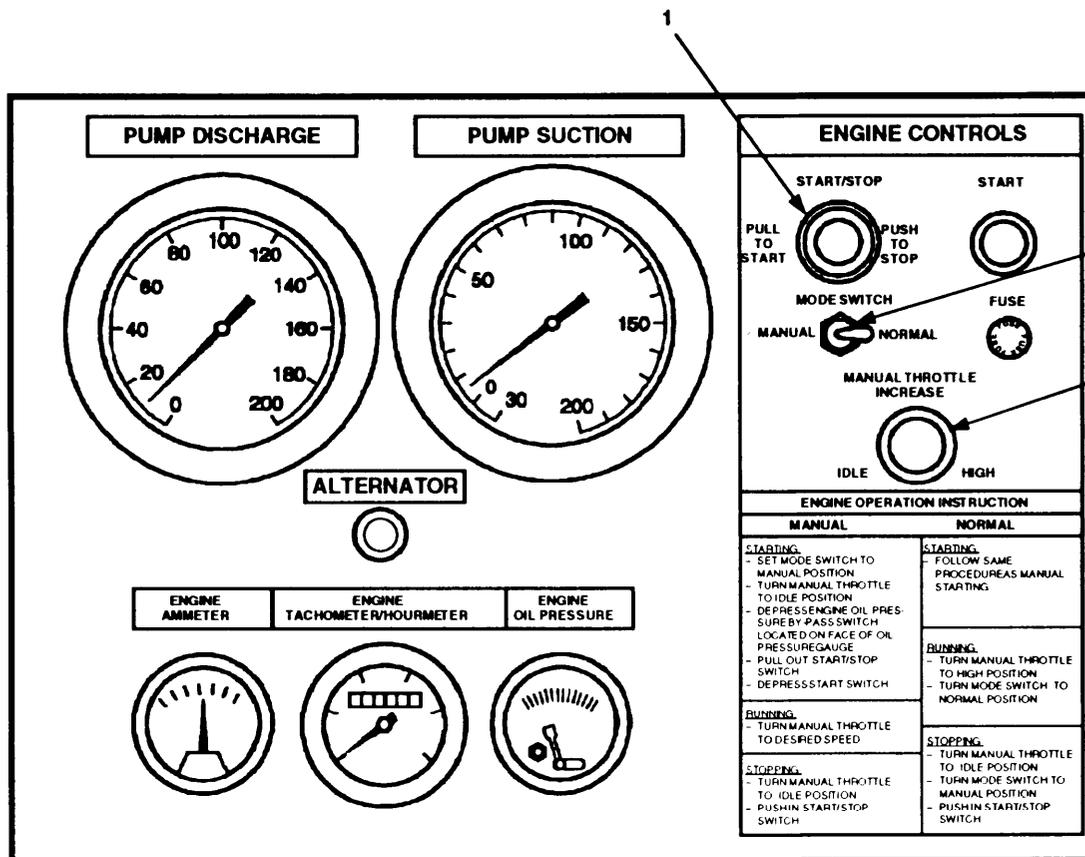

Figure 2-28. Model WS636HCCD-1 Controls Used for Electric Automatic Operation.
- b. Turn MANUAL THROTTLE INCREASE knob (Figure 2-28, 3) clockwise to HIGH position.
- c. Push MODE SWITCH (2) to NORMAL position. Engine speed will adjust automatically to changes in pump pressure rates.